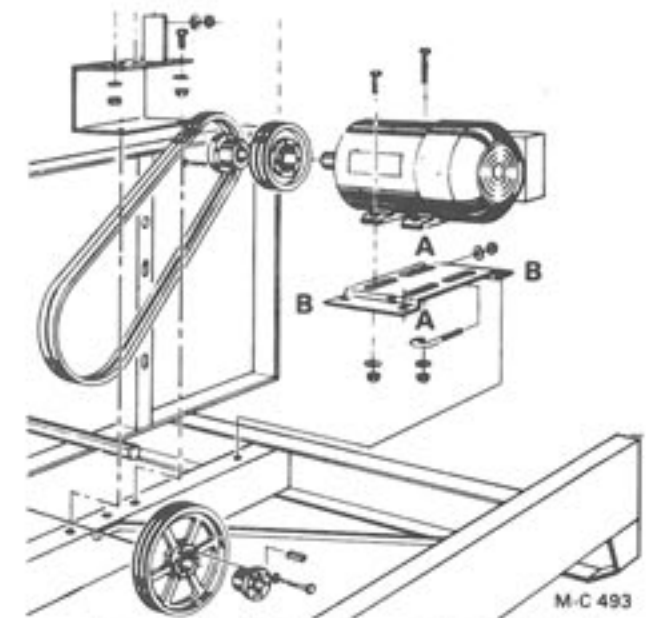

Figure 13 - Unload Auger Motor Mount
4. Install the belts and loosely bolt the unload auger motor to the motor mount. Use 5/16-18 x 1 1/2" capscrews at location "A", Figure 13 and 5/16-18 x 1" capscrews at location "B", Figure 13. Put flatwashers on each side of the motor mount (put an additional flatwasher on the underside of the 1 1/2" capscrews). Partially thread the locknuts onto the capscrews.